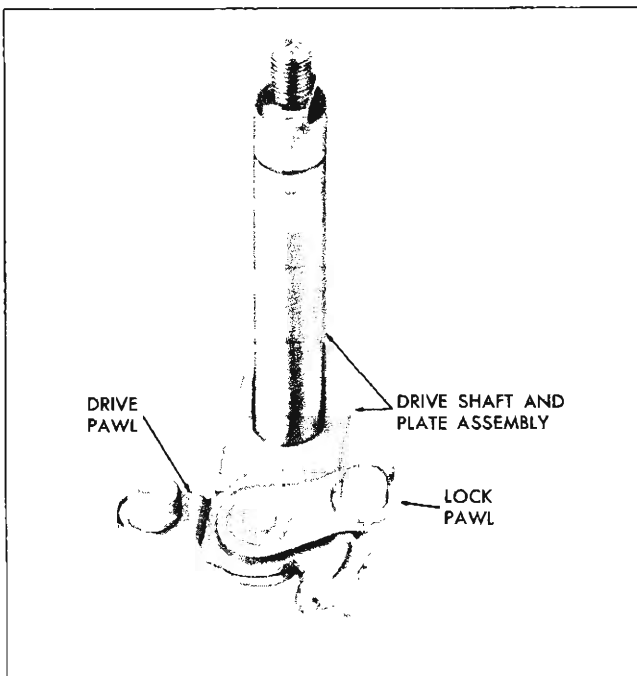

Fig. 71—Lock and Drive Pawl Assembly
1. Position drive pawl on drive plate as shown in Figure 71.
2. Assemble lock pawl over drive pawl as shown in Figure 71.